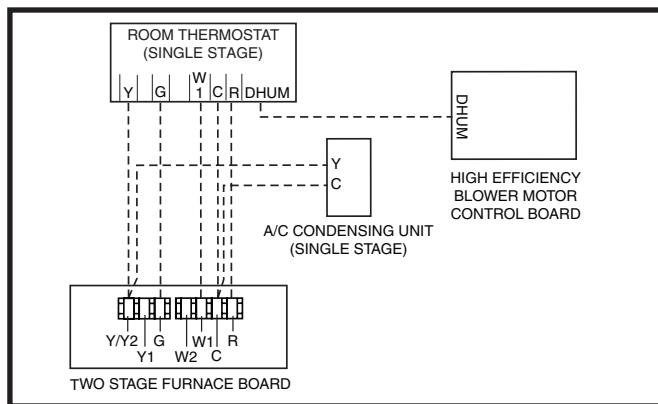
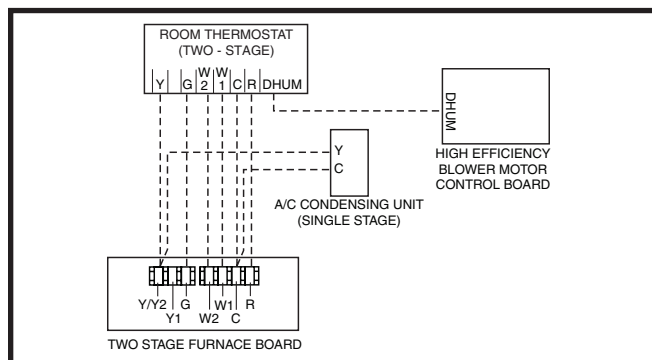
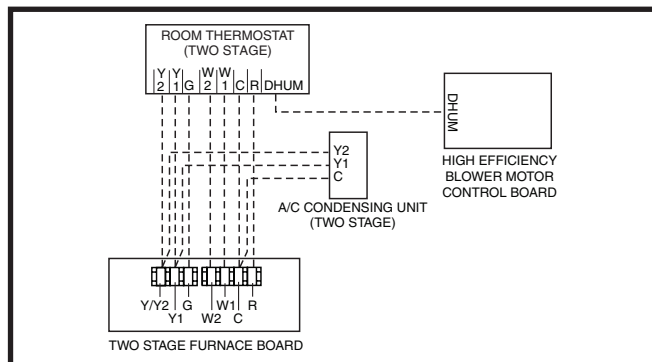

Figure 20. Wiring Configuration 1
Figure 21. Wiring Configuration 2
Figure 22. Wiring Configuration 3
- Connect the thermostat's **W** output to the furnace control board's **W1** terminal. This allows the furnace to always run in low output mode. See Figure 20.
This option uses the full two stage heating capability of the furnace with a single stage outdoor unit. See Figure 21.
This option uses the full two stage heating capability of the furnace with a two stage outdoor unit. See Figure 22.
The Autostaging feature makes it possible to use a single stage thermostat and still receive some of the benefits of 2-stage furnace operation. If Autostage is enabled, the furnace will drop to **LOW** fire after initially starting in **HIGH** fire. After a period of 10 minutes, the furnace will then stage up to **HIGH** fire, until the heating load is met. See Figure 20 and the Low Voltage Connection section on page 22.
- ✓ Verify that all needed thermostat wires are securely connected to the correct leads on the terminal strip of the circuit board. See Figure 20 \(page 22\), Figure 21 \(page 22\), & Figure 22 \(page 22\).
The operating sequences for the heating, cooling, and fan modes are described below. Refer to the field and furnace wiring diagrams: Figure 19 \(page 21\), Figure 20 \(page 22\), Figure 21 \(page 22\), Figure 22 \(page 22\), Figure 30 \(page 32\), & Figure 31 \(page 33\).